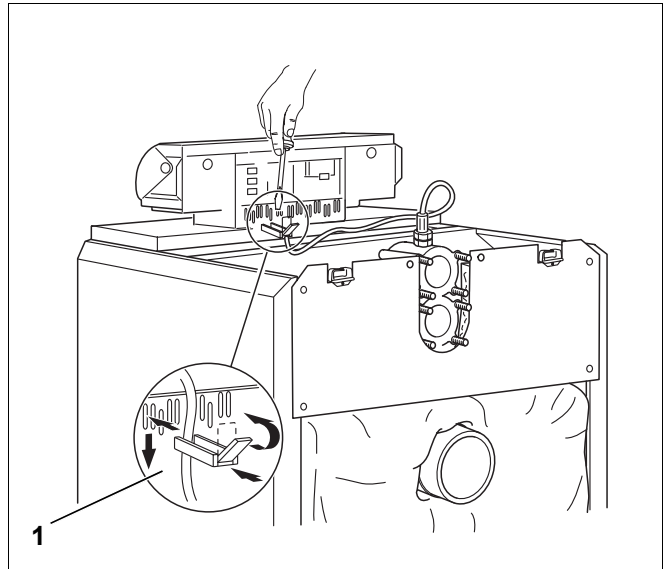

Fig. 47 Securing the electrical connection cables
- Insert cable clips with fitted cables into the clip frame and secure by pivoting the lever (Fig. 47, **Item 1**).